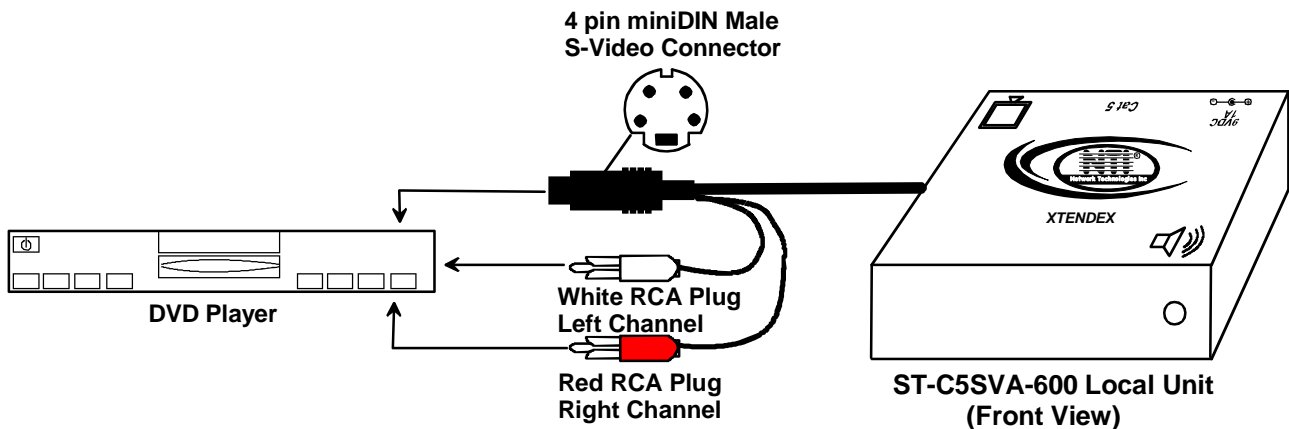

Figure 5- Connect the S-Video Local Unit to the s-video/audio source
1. Plug the cables of the Local Unit into the back of the s-video source. (See Figure 5.)